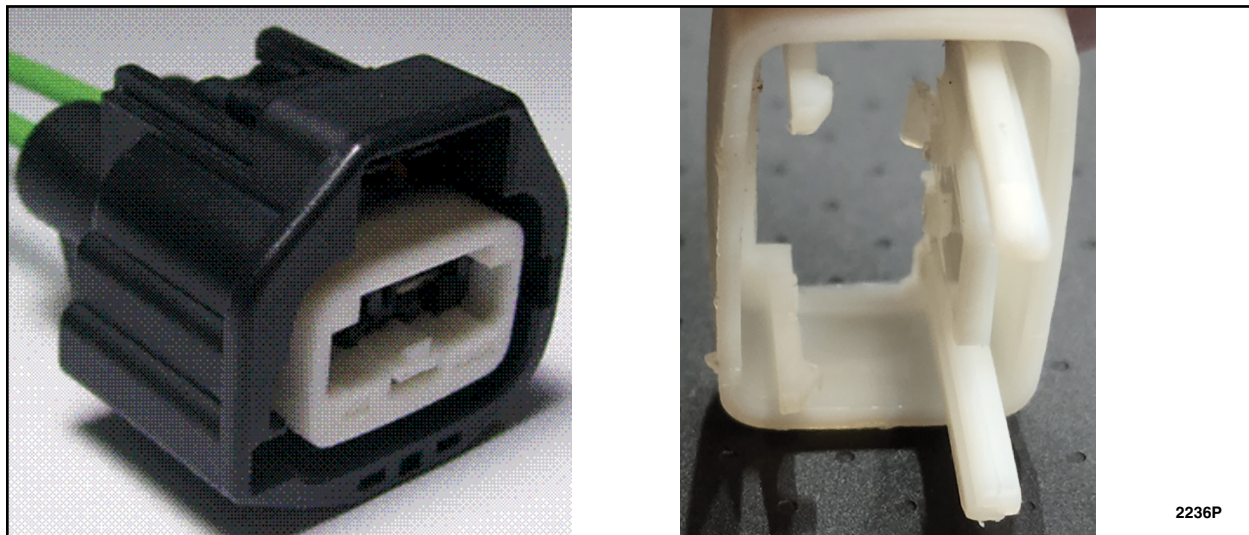

FIGURE 22
27. Remove connector cover to the C1074 connector to access the terminal. See Figure 22.